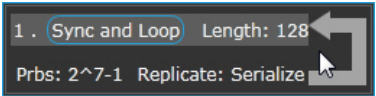

Figure 36 Analyzer controls
- 4 Click in the **Analyzer** block as shown in Figure 36 on page -84.